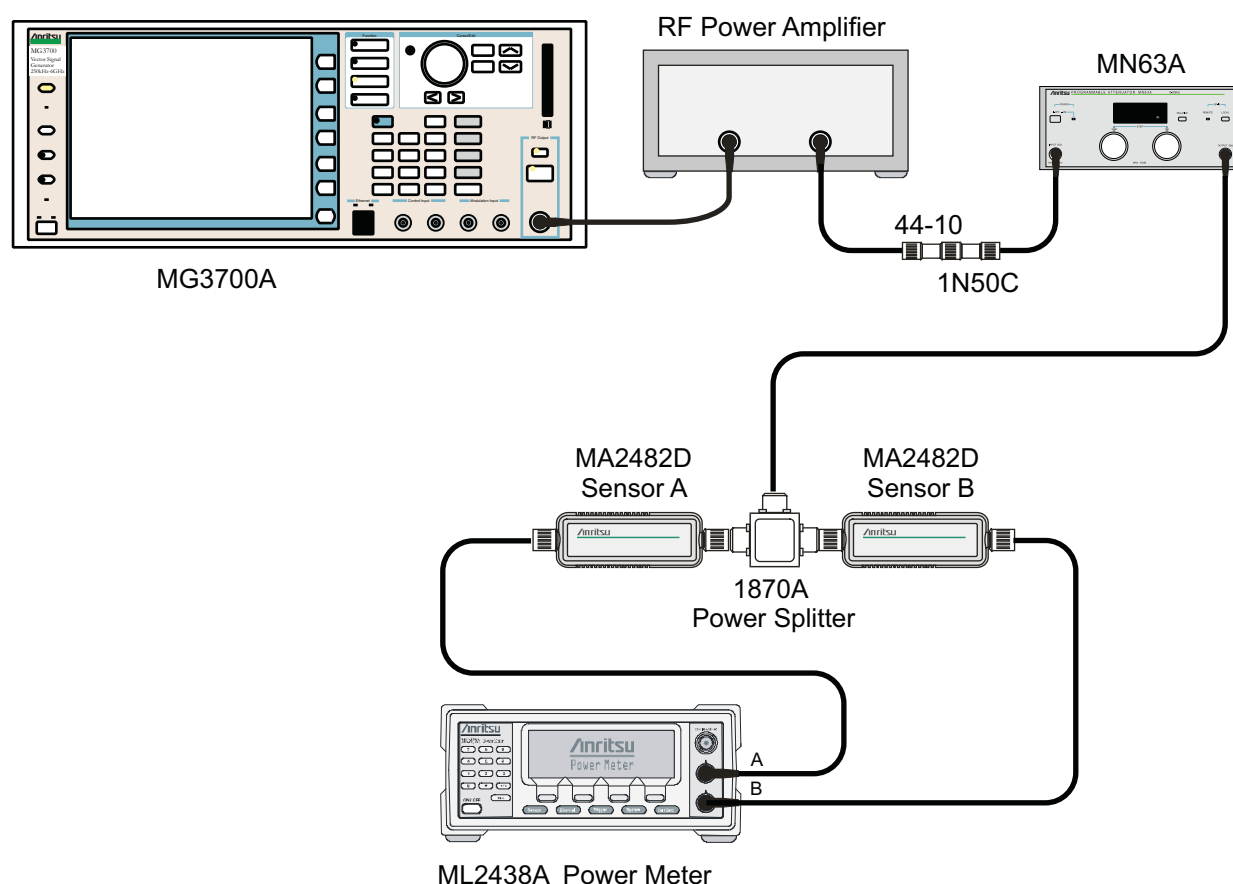

Figure 3-17. Level Accuracy Verification Setup
2. Connect the MG3700A Signal Generator, Power Amplifier with N(f)-to-BNC(m) adapters, RF Limiter, MN63A Programmable Attenuator, Power Divider, Power Meter, and Power Sensors as shown in Figure 3-17 on page 3-68
52. Turn Off the power amplifier, disconnect the power splitter from the Spectrum Master, and reconnect Sensor A to the power splitter as shown in Figure 3-17 on page 3-68.